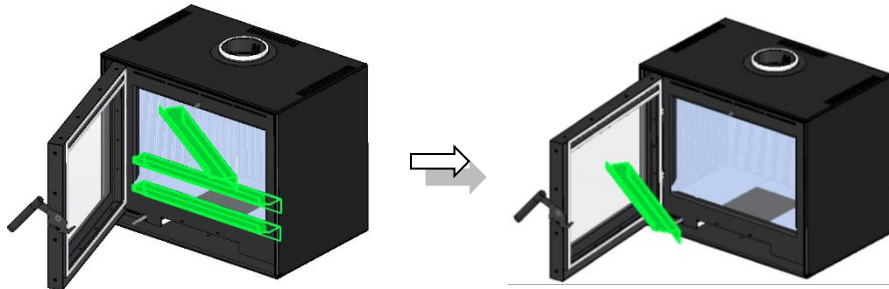

Figure 13 – Remove of the ash deflector
1. Remove the ash deflector by moving upwards and remove it from the machine, see Figure 13.